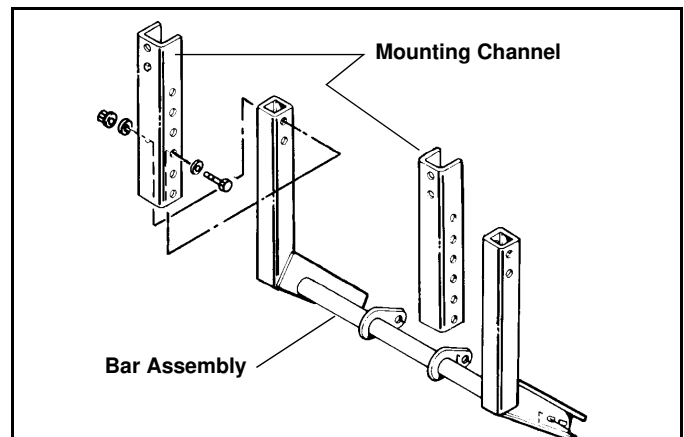

Figure 5
2. Attach Mounting Channels (#18) to Lower Bar Assembly using four (4) 3/8" x 3" Cap Screws (#21), Washers (8 req.) and Nylock Nuts Provided. (See Figure 5)